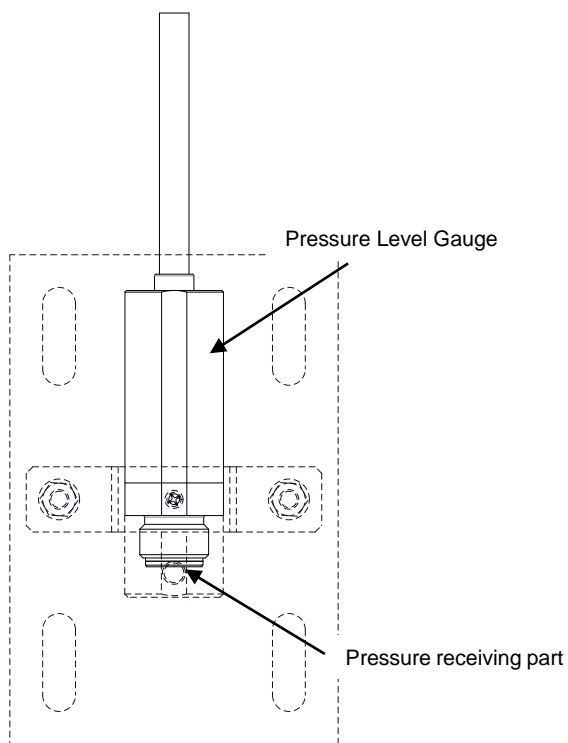

Fig. 2-4 Installation direction of Pressure Level Gauge
- Install the Pressure Level Gauge with the pressure receiving part facing downward as shown in Fig. 2-4.